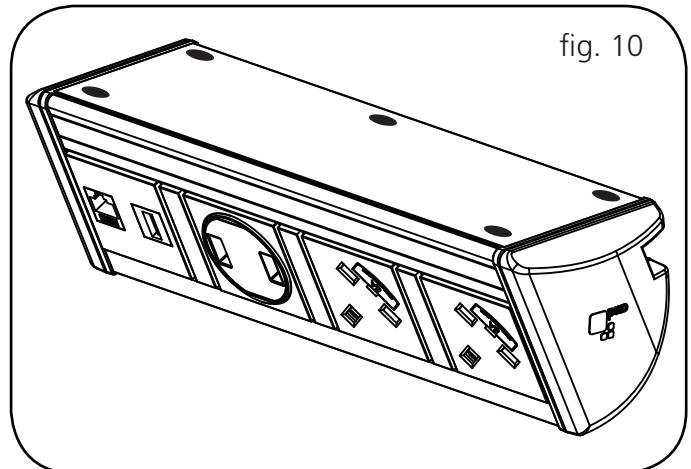

fig. 10
1. Apply rubber feet to the base of the Harmony module (fig. 10).